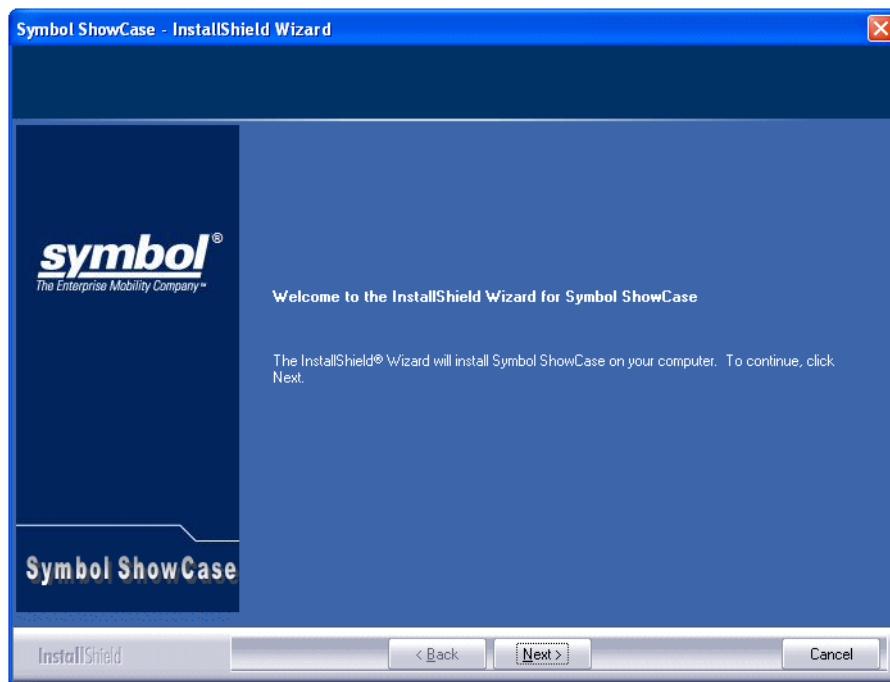

Figure 2-3. ShowCase Welcome Window
2. The *Preparing Setup* window automatically launches the *ShowCase Welcome* window (see Figure 2-3).